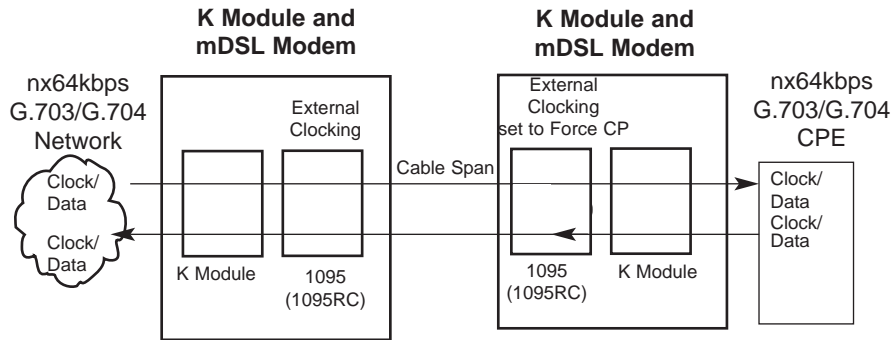

Figure 2. Clock Settings in a Network Extension Application
**Network Extension** mode is used to extend nx64 -2.048Mbps G.703/G.704 service across a DSL link, providing an nx64 G.703/G.704 link at the remote site. Transmitter clocking is derived from the G.703/G.704 network, and transmitted over the baseband modem link (refer to Figure 2, below).